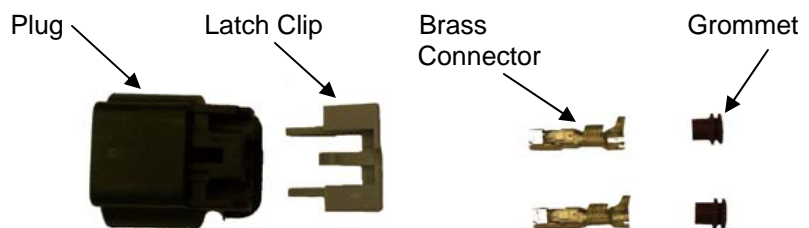

Figure 2
5. Once both wires are secure into the plug insert the latch clip. See Figure 2 below.